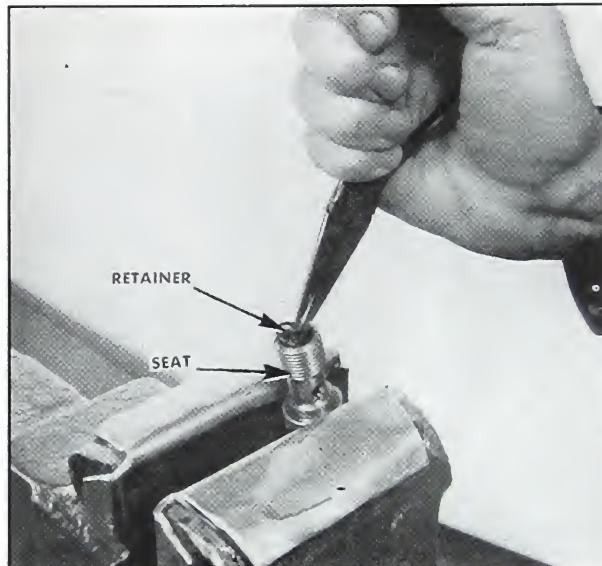

Fig. 5-277. Removing check ball retainer
2. Clamp the check ball seat in a copper jawed vise and remove the retainer ring. Fig. 5-277. Inspect the check ball and seat.